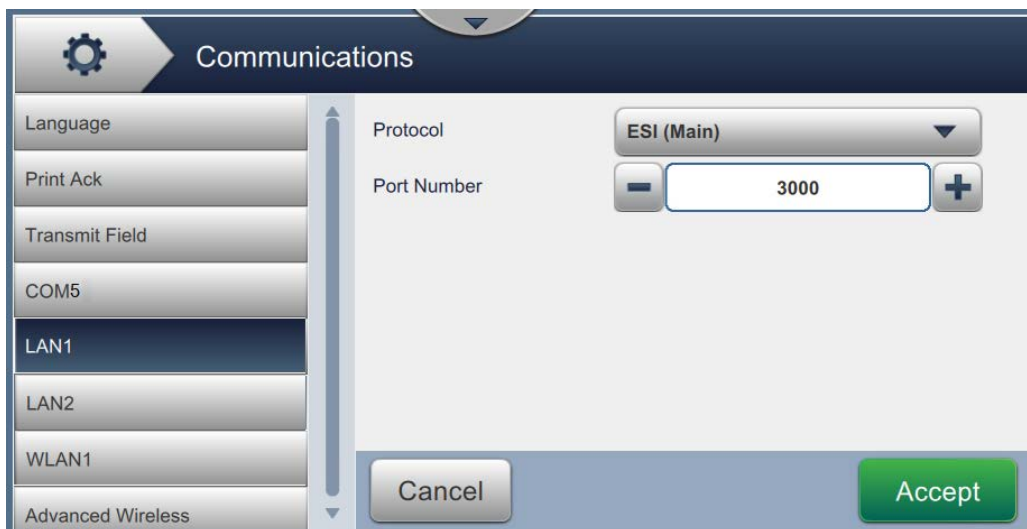

Figure 7-20: Add Protocol and Port Screen
13. The Add Protocol and Port screen with updated parameters is shown in Figure 7-20. Touch the *Accept* button to save the changes. The *Under Remote Control* message in the banner will appear when the Protocol is selected and LAN connection is open.